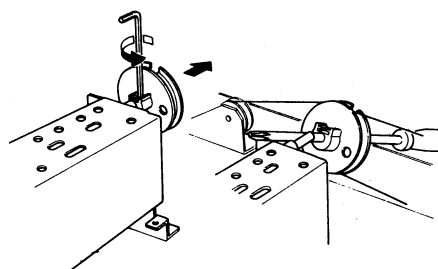

Fig. 2
1) In order to prevent the thread from working free from the dial drum when circuit board removed, loosen the mounting screw for the dial drum with a hexagonal wrench (1.5 mm), insert it into the driver as shown in the figure and tighten temporarily. (Refer to Fig. 2)